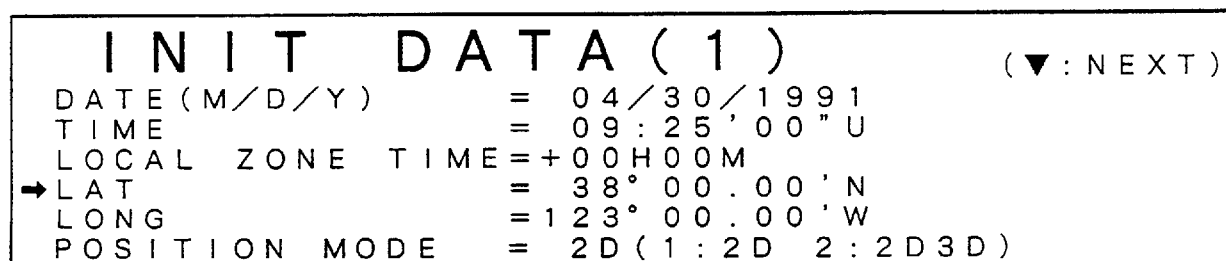

Figure 2-5 INIT DATA (1) menu
- 3) Press **▲** and **▼** keys to select line where you want to enter data. To enter latitude on the "LAT" line, for example, press **▼** three times to set the cursor on the LAT line. Your display should show the cursor on the LAT line, as in Figure 2-5.